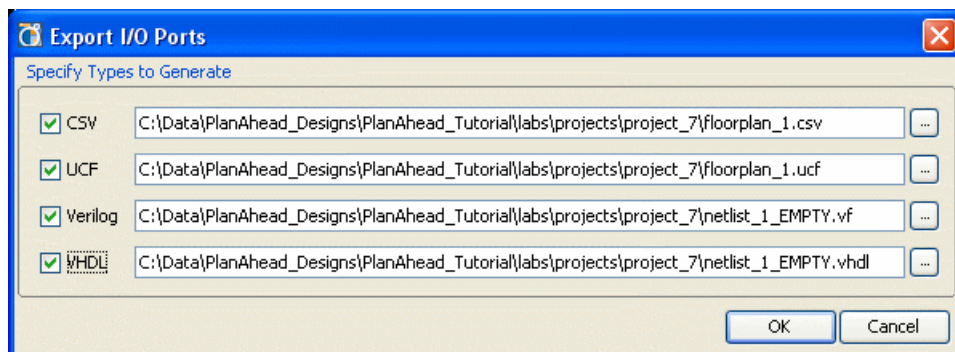

Figure 8-31: Exporting I/O Port Lists
1. To export the I/O Ports list information, select **File > Export > Export I/O Ports**, as shown in Figure 8-31.